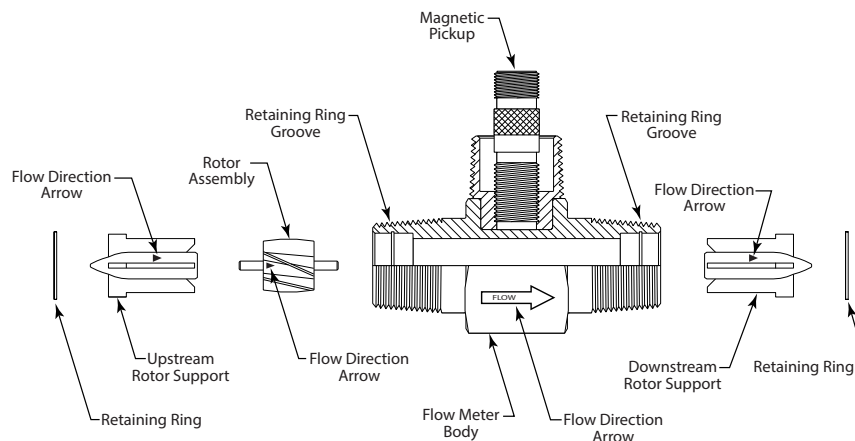
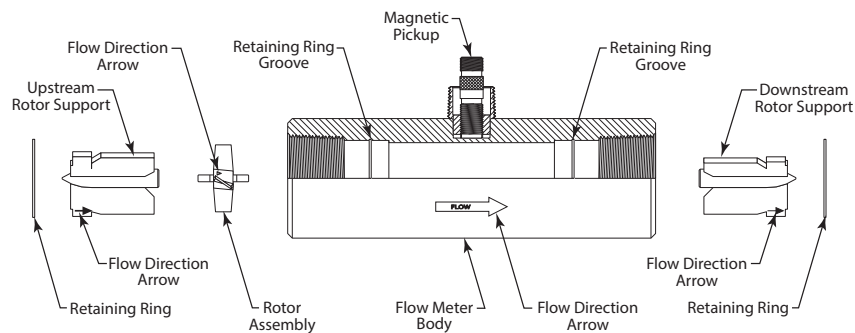
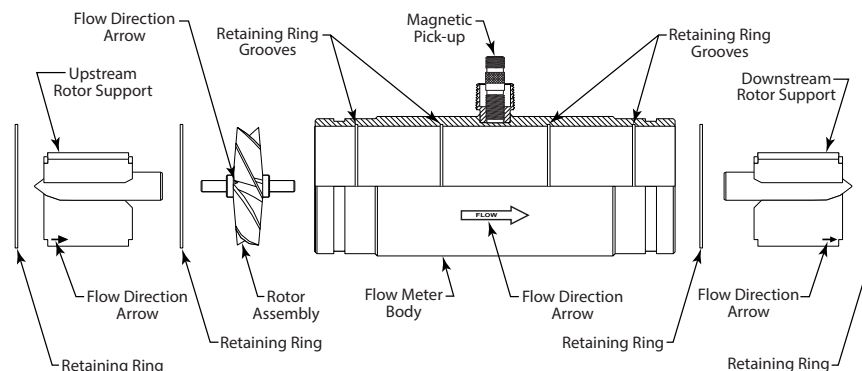

Figure 7: Component positions for B110-375...B111-115 and B111-121
Figure 8: Component positions for B111-120 and B111-130
Figure 9: Component positions for B111-140 and B111-200
1. Refer to Figure 7, Figure 8 and Figure 9 for relative positions of repair kit components.
NOTE: 4 in. and larger meters have two retaining rings (one on either side of the rotor) that require removal before the rotor can be removed (see Figure 9).
Before reassembly, note that an arrow is cast or engraved on each component. The arrow indicates the primary flow direction. When reassembled, the arrowheads must point in the direction of the fluid flow. The arrows must also be oriented in the up position on both rotor supports. The magnetic pickup side of the body signifies the up position. Performance of repair kit calibration is in the up position. Reinstallation of the repair kit in the up position provides continuation of accurate measurements. Figure 7, Figure 8, and Figure 9 show the proper alignment and orientation of the repair kits.
NOTE: 4 in. and larger meters have a retaining ring at both ends of the rotor (see Figure 9).